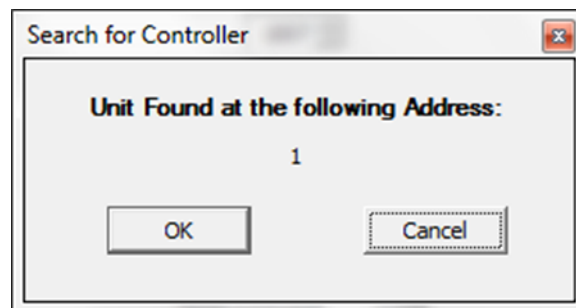

Figure 7-3: Dialog Window, Search for Controller
6. Click on the [Search for Unit] button. The utility will locate the unit on the network. See **Figure 7-3**. Click on the [OK] button.